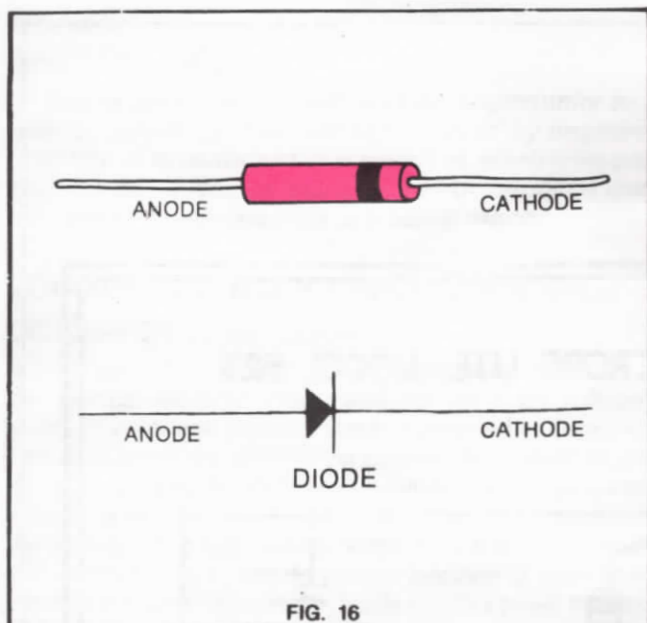

FIG. 16
6. Connect and solder the cathode lead (lead nearest to colored band, refer to Figure 16) of